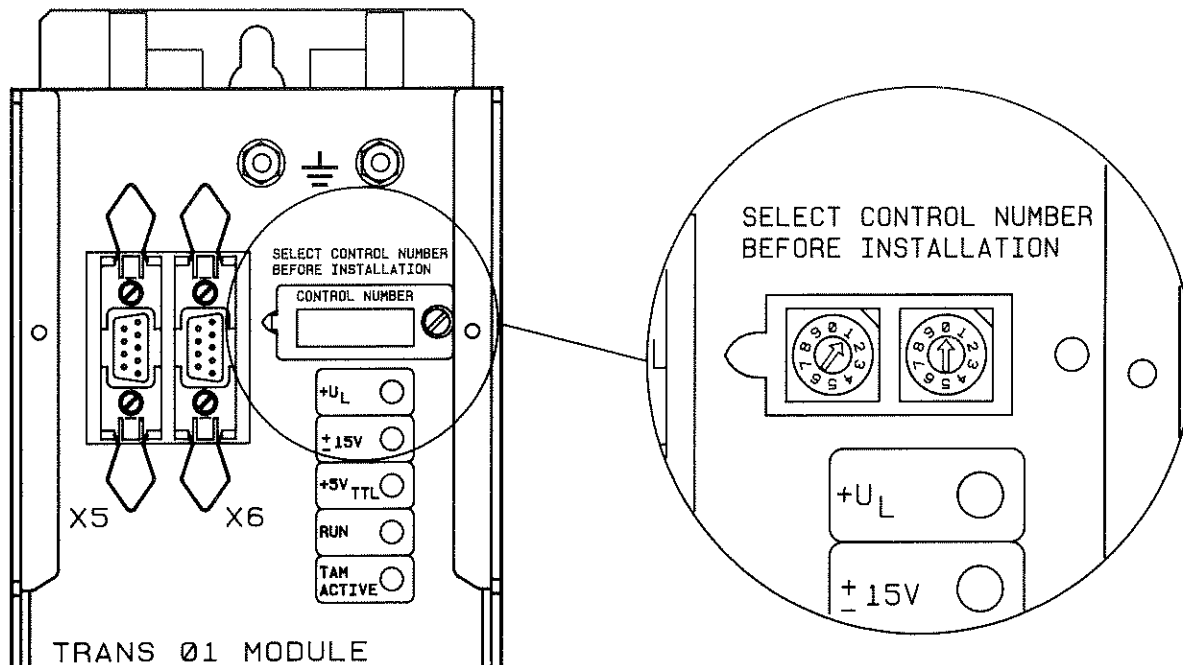

Figure 4-1. TRANS NUMBER Switches
1. Access these switches by removing the cover plate on the front of the modular TRANS, as illustrated in Figure 4-1.